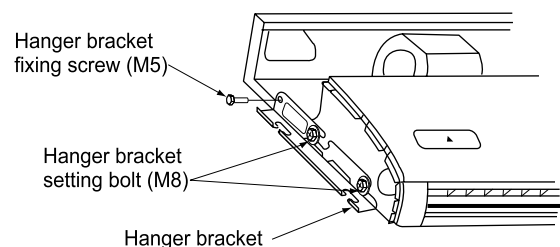

Fig. 7
- Remove two hanger bracket fixing bolts (M5) on the rear side. Detach the hanger bracket by pulling backwards. (Refer to Fig. 7)